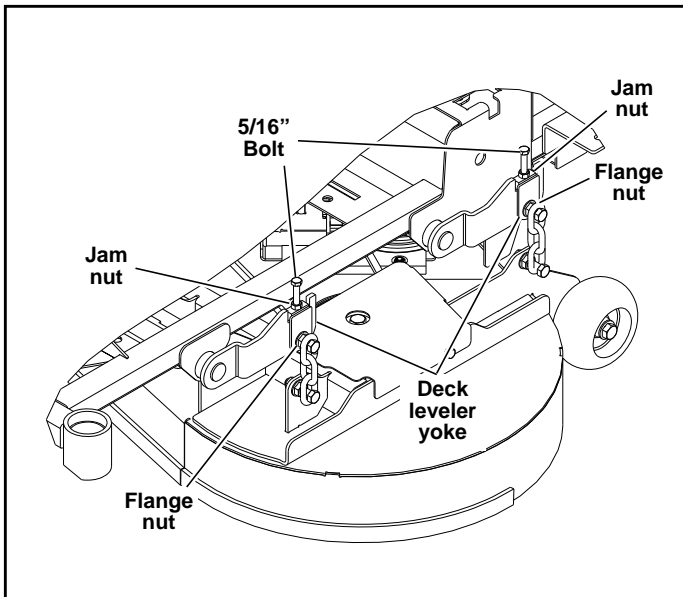

Figure 6-5
7. Loosen the deck leveler yoke on the front left side of the deck by loosening the flange nuts. Figure 6-5.
8. Loosen the jam nut and back out the 5/16" bolt on top of the deck leveler yoke to allow the adjuster to move up and down freely. Figure 6-5
14. Tighten the 5/16" bolt on the front left deck leveler yoke until the chain is taut. Tighten the jam nut against the deck leveler yoke. Tighten the two flange nuts. Verify that the front right chain remains taut while tightening the nuts. Figure 6-5
18. Tighten the 5/16" bolt on the left rear deck leveler yoke until the chain is taut. Tighten the jam nut against the deck leveler yoke. Tighten the two flange nuts. Figure 6-5